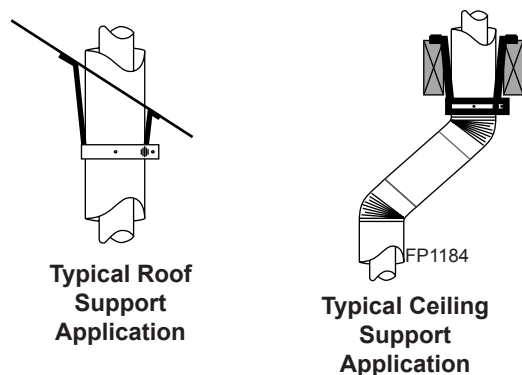

**Figure 20 -
7. Install roof support (*Figure 20*) and roof flashing making sure upper flange is below the shingles. *Figure 38*